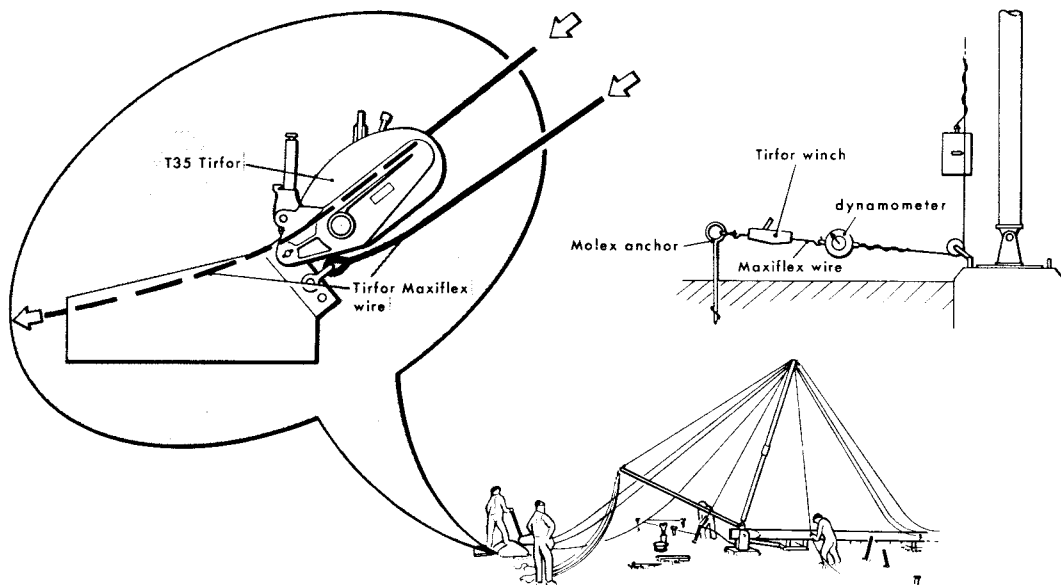

Fig. 6.4 Anchoring the Winch
- Anchor the winch and the cable hook with the correct slings (*see* Fig 6.4).